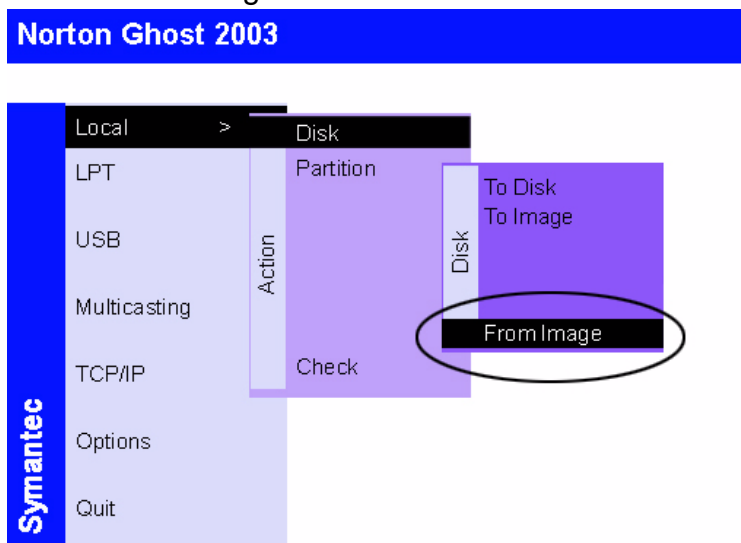

Figure 6-16. Choosing the desired Norton Ghost operation
3. The screen in **Figure 6-16** appears, at first without the sub-menu at the extreme right: